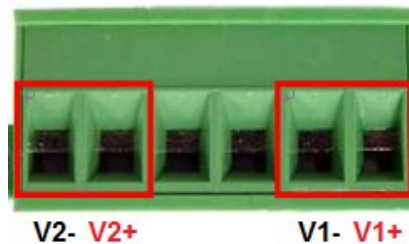

Figure 2.6
1. Insert the positive and negative wires into the V+, V- contacts on the terminal block connector as shown below in *Figure 2.6*.